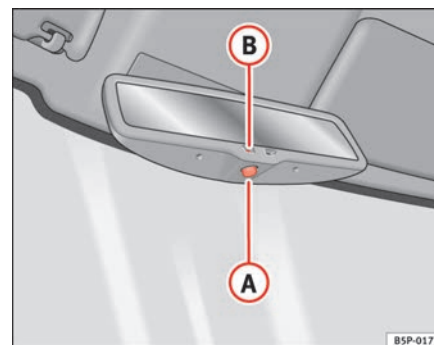

Fig. 89 Automatic anti-dazzle interior mirror.
- Press button (A) ⇒ fig. 89. Warning lamp (B) goes out.
- Press button (A) ⇒ fig. 89. Warning lamp is lit.